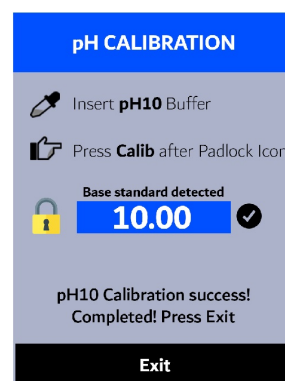

Figure 28.
21. If the calibration succeeds, a checkmark (✅), a "pH4 Calibration success!" or a "pH10 Calibration success!" message, and a "Completed!" message will appear (Figure 28). Otherwise, a warning message is displayed.